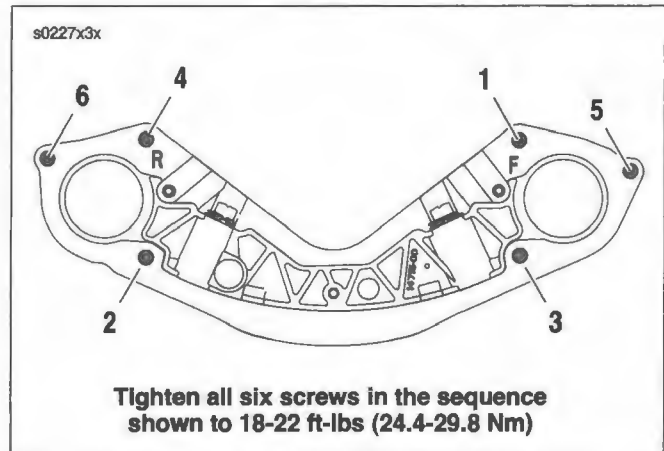

Figure 3-64. Balance Shaft Housing Torque Sequence
3. See Figure 3-64. Install chain guide bracket assembly.